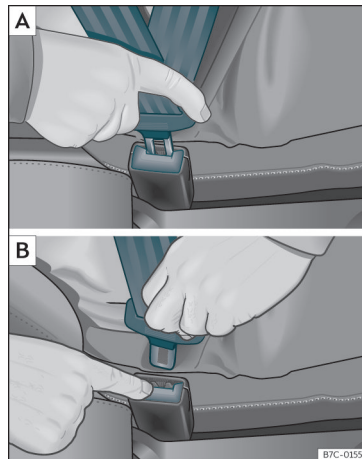

Fig. 79 Positioning and removing the seat belt buckle.
» **Fig. 79 A.**
- Press the red button on the belt buckle »» **Fig. 79 B.** The latch plate is released and springs out »» .